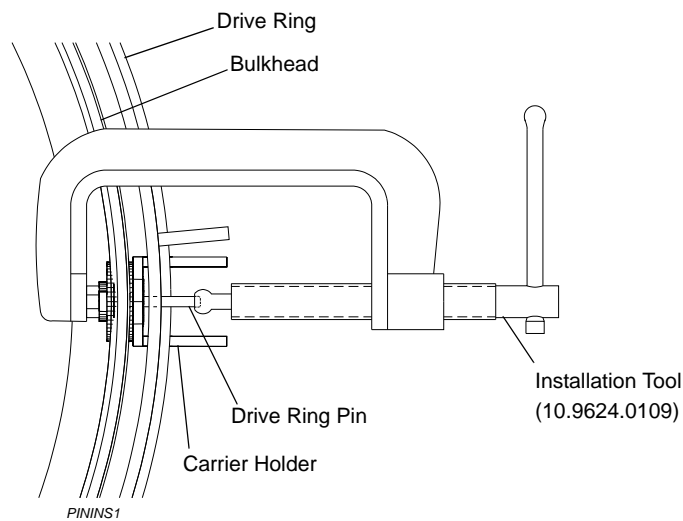

Figure 2-22: Drive Ring Pin Installation
Step 12. At drive ring, using installation tool (10.9624.0109), carefully press prepared pin through drive ring groove into carrier holder until tool is even with drive ring flange. **Figure 2-22.**